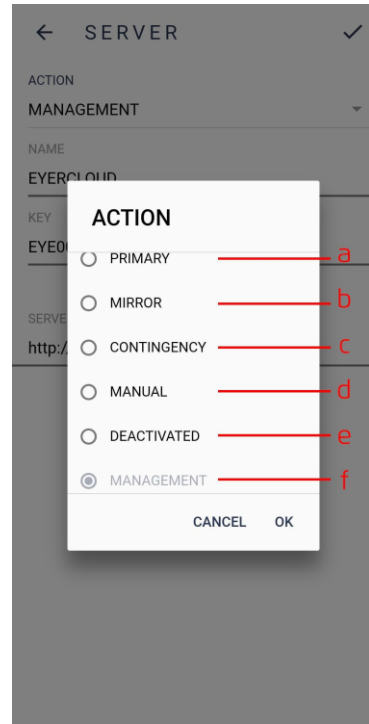

Figure 93: Synchronization action options
1. **Action:** Defines server action behavior, figure 93: